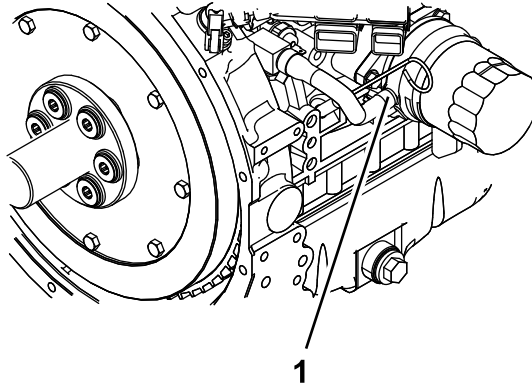

Figure 58
6. Remove the coolant hose from the oil cooler and drain the coolant from the engine block (Figure 58).